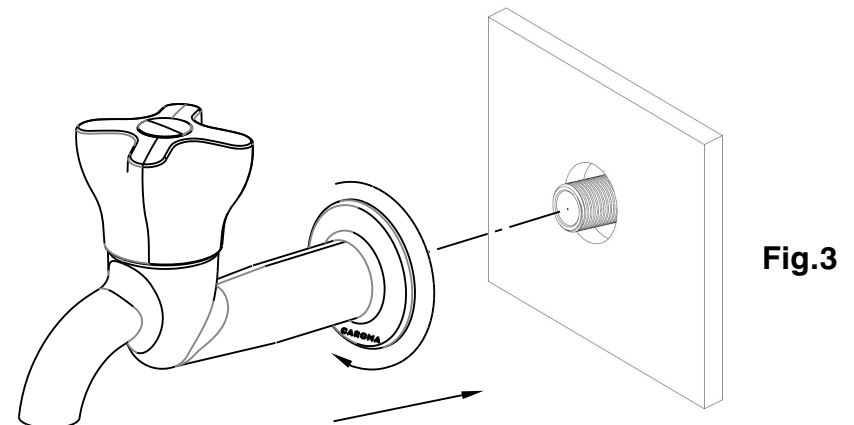

Fig.3
- 3) Apply silicone sealant or equivalent to the tap body flange and screw the tap body onto the nipple (Fig.3).